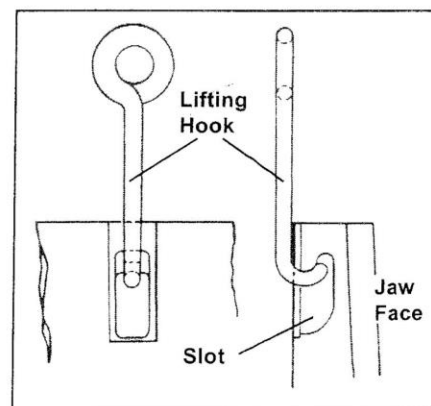

Figure 9j Lifting Hook
5. Tip the top of the jaw forward and insert a lifting hook of a similar type shown in Figure 9j.
7. Insert lifting hook in the back of the jaw (refer to Figure 9j).
5. Tip the top of the jaw forward and insert a lifting hook of the type shown in Figure 9j into the back of the jaw.
11. Insert the lifting hook into the slot at the back of the new jaw (Figure 9j).